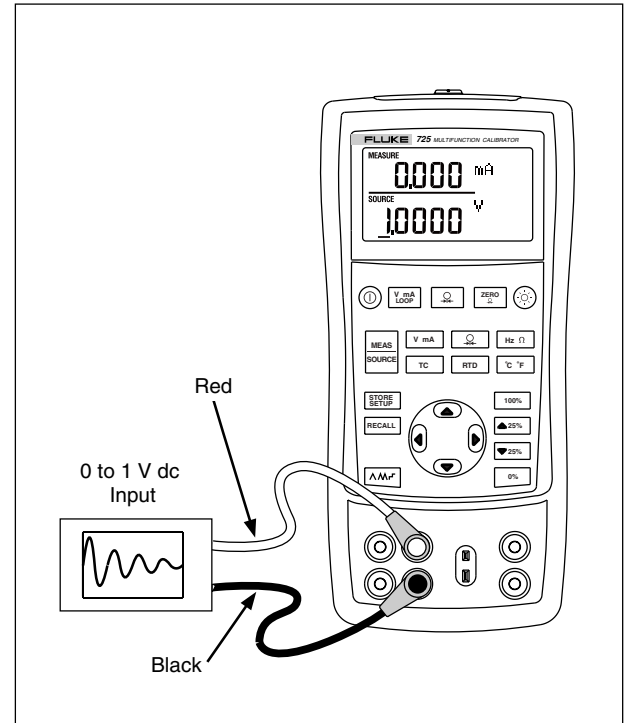

Figure 22. Calibrating a Chart Recorder
1. Connect the test leads to the instrument under test as shown in Figure 22.